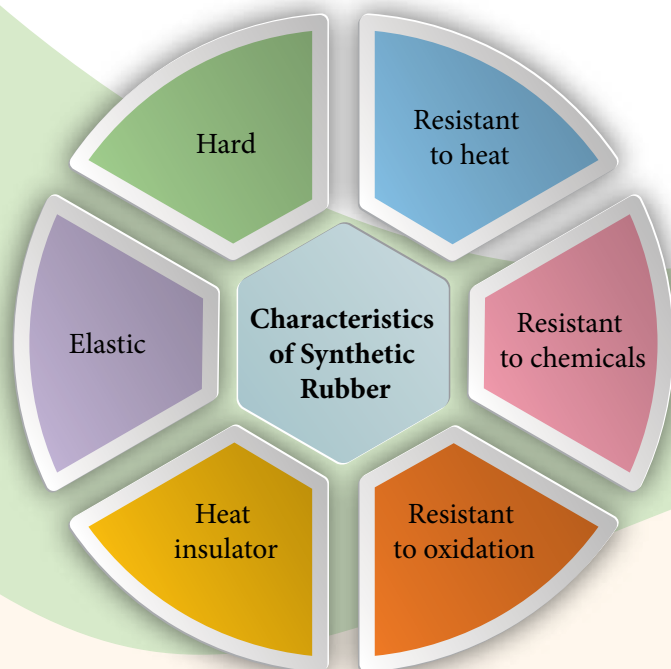

Figure 4.13 Characteristics of Synthetic Rubber
- Even though the items have natural rubber characteristics, such as high elasticity, they are not produced by using natural rubber. Instead, synthetic rubber is used. Other synthetic rubber characteristics are shown in Figure 4.13.